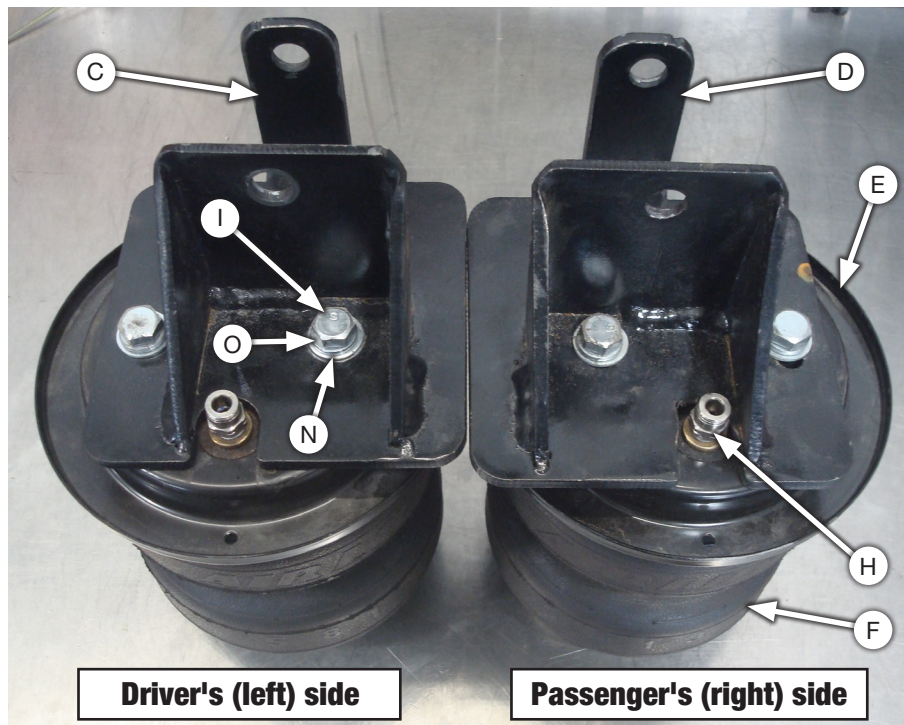

Fig. 7
1. Install a straight air fitting (H) into each air spring (F) and tighten 1 1/2 turns past finger-tight. Set a roll plate (E) over each air spring, and then place each upper bracket (C or D) over each air spring. Place a 3/8" lock washer (O) and 3/8" flat washer (N) onto each 3/8"-24 x 3/4" bolt (I). Tighten the bolts to 16 lb.-ft. (21.7Nm) (Fig. 7)